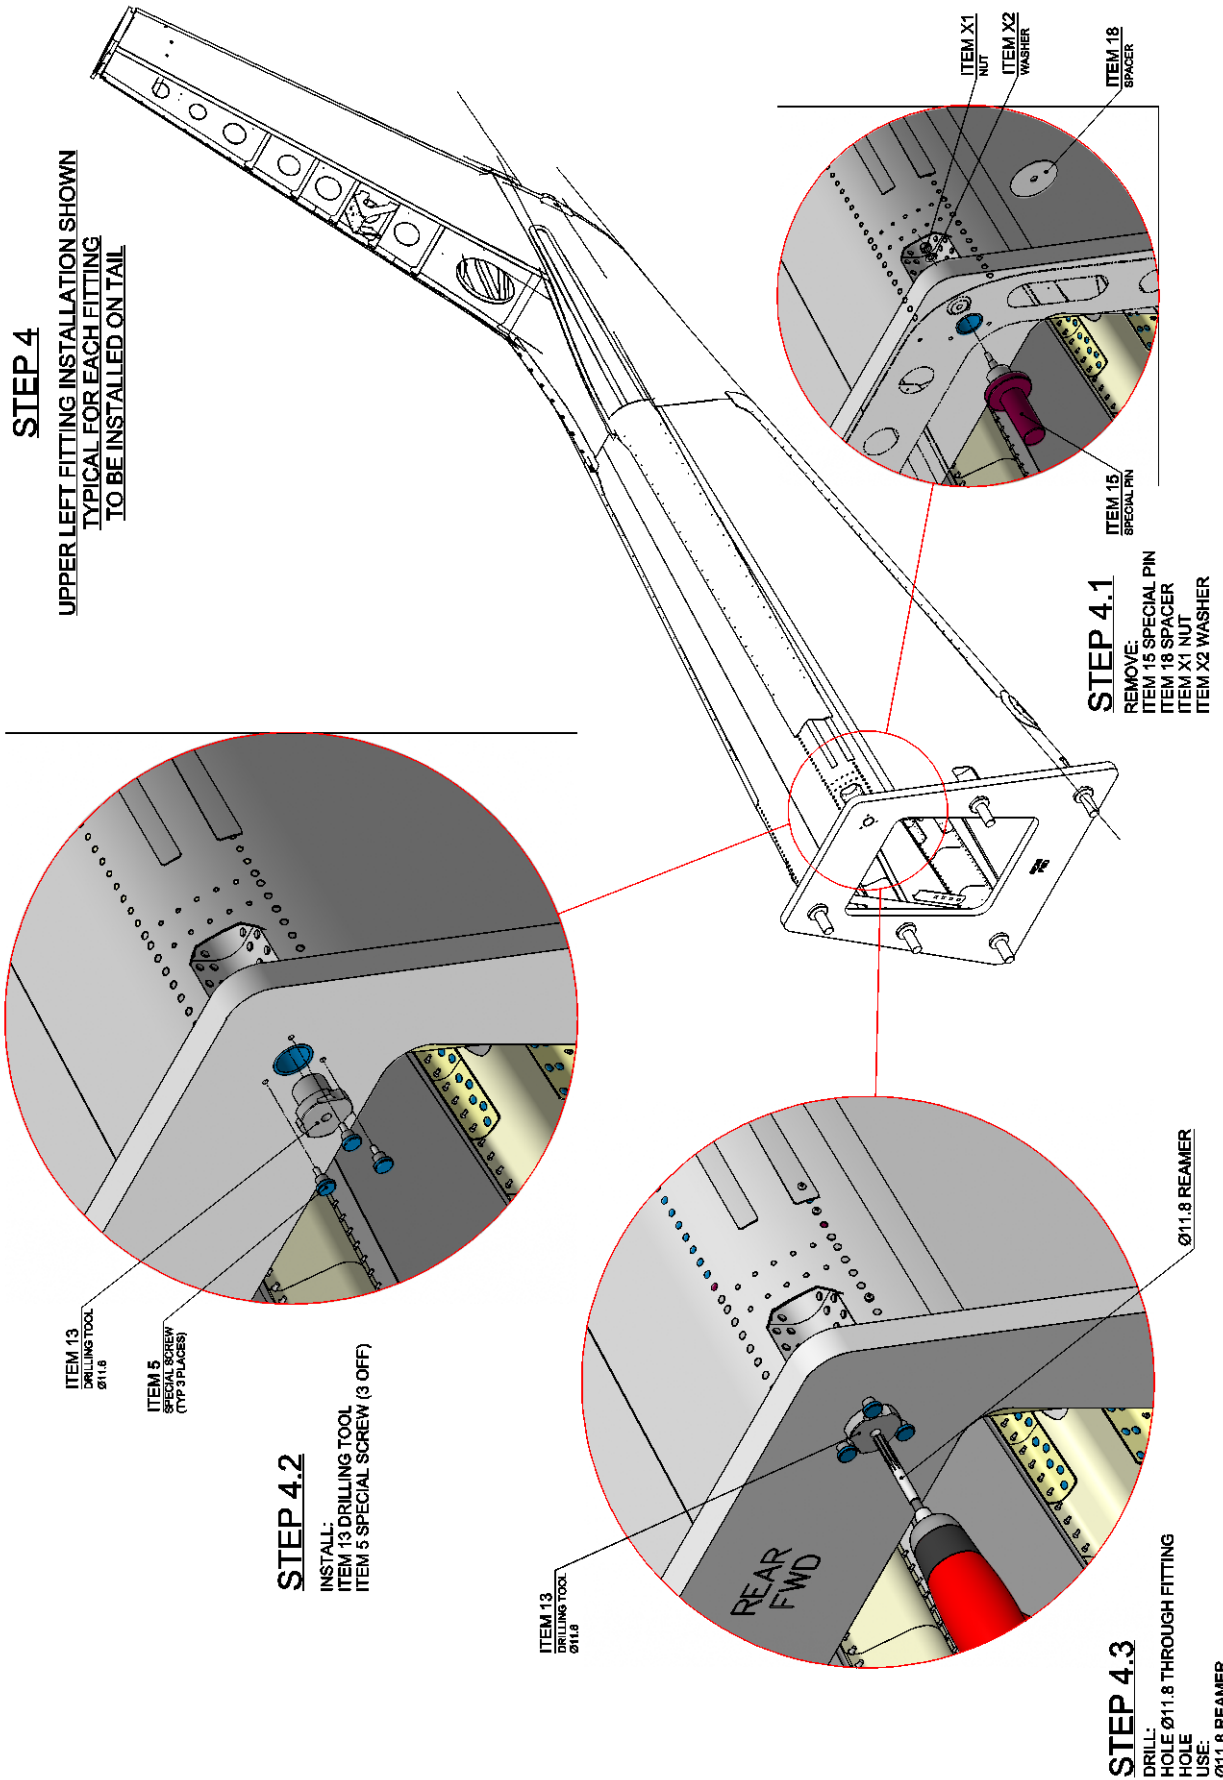

Figure A5
6. With reference to Figure A5, remove a special pin (ITEM 15), a spacer (ITEM 18), a washer (ITEM X2) and a nut (ITEM X1) installed in the previously step and install the drilling tool $\varnothing 11.8$ (ITEM 13) by means of n°3 special screws (ITEM 5).
7. With reference to Figure A5, ream the fitting hole to $\varnothing 11.8$ by means of reamer $\varnothing 11.8$.